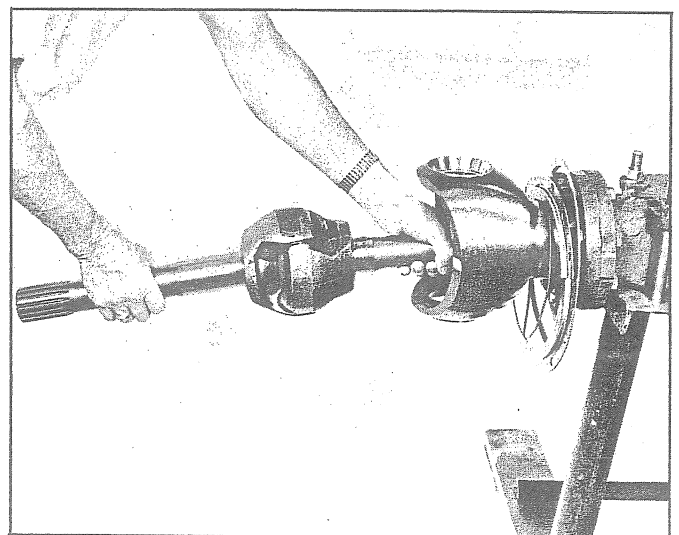

Fig. 15 - Removing Axle Shaft Assembly
18. Carefully slide universal joint and axle shaft assembly out of the housing as shown in Fig. 15. The universal joint will separate if the axle shafts are not kept in alignment with each other.